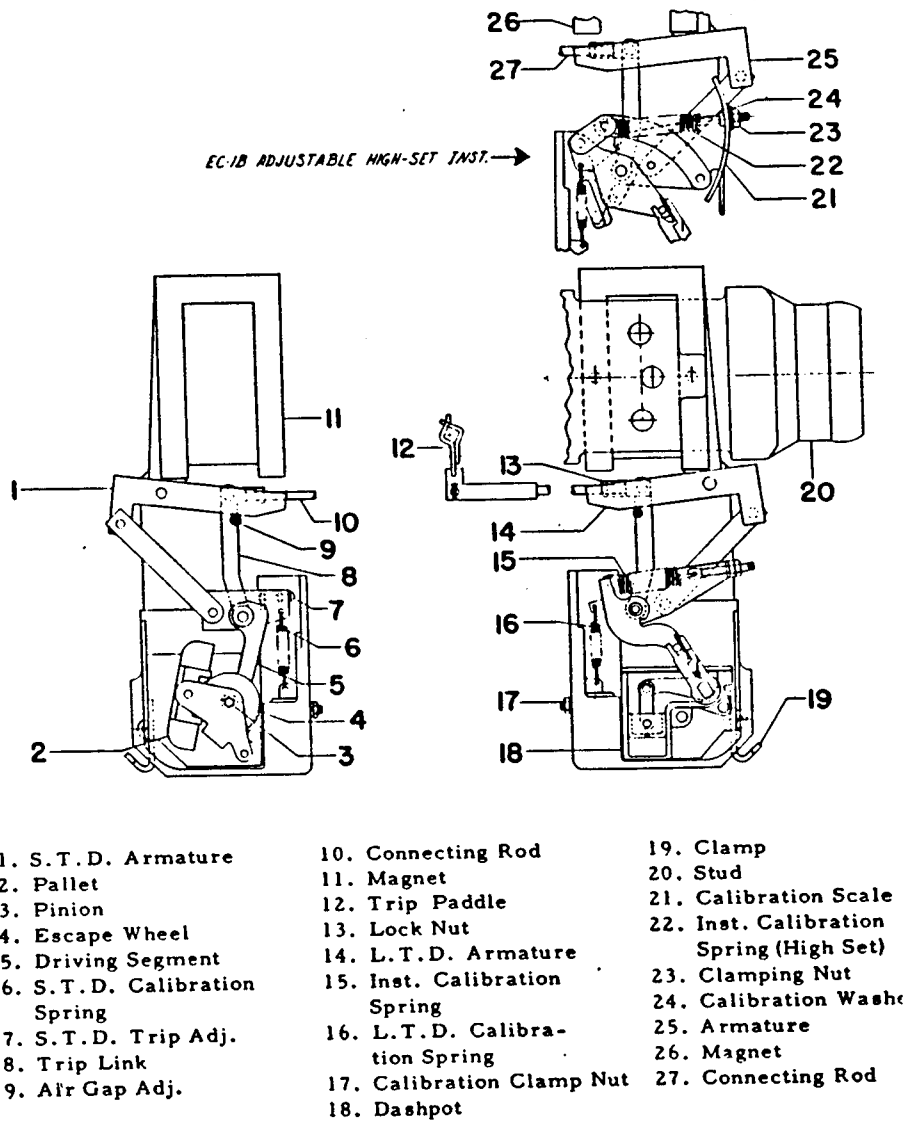

Fig. 23. Direct-acting tripping devices—EC-1A and EC-1B
### DIRECT-ACTING TRIPPING DEVICES EC-1A and EC-1B (Fig. 23)
The EC-1A and EC-1B tripping devices differ only in that the EC-1B is adjustable on high-set instantaneous tripping. The EC-1A is not adjustable on high-set instantaneous tripping and its pickup value for this setting is given in a particular current magnitude inscribed on the device nameplate. The adjustable setting mechanism of the EC-1B is shown at the top of Fig. 23.
### SHORT TIME-DELAY TRIPPING (Fig. 23).
### LONG TIME-DELAY TRIPPING (Fig. 23)
### INSTANTANEOUS TRIPPING (Fig. 23)
If the characteristic of the device is low-set, adjustable instantaneous, a link is installed in place of spring (15) and the instantaneous calibration spring is located where spring (16) is shown in Fig. 23. Dashpot (18) is omitted from the assembly.
### REPLACEMENT (Fig. 23)
### ADJUSTMENTS (Fig. 23)